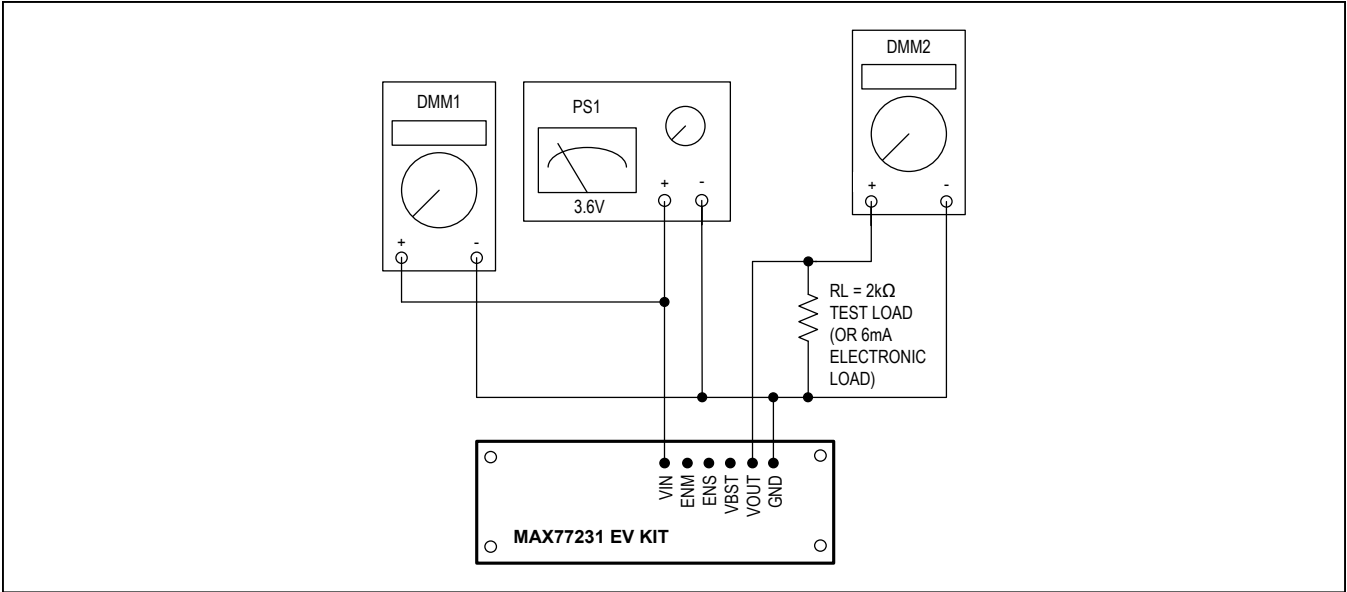

Figure 1. Quick-Start Connection Diagram
- 4) Connect the MAX77231 evaluation board, bench power supply and DMMs as shown in Figure 1.